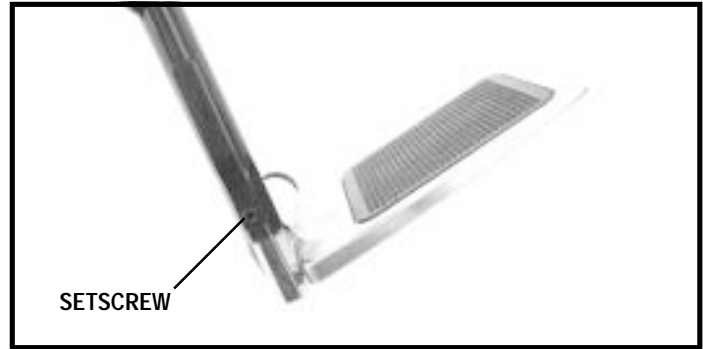

Figure 28. Swing-away Footrest
1. Loosen the footrest setscrew. See figure 28.